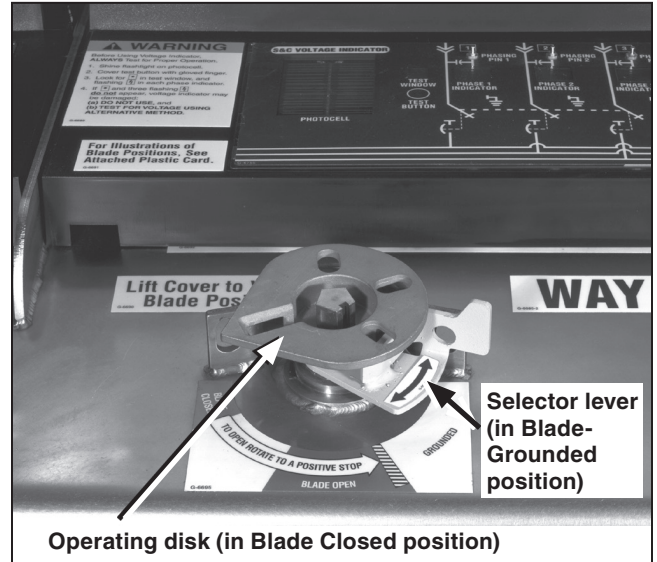

Figure 1. Observe the position of the operating disk and selector lever.
- STEP 1.** Observe the position of the operating disk and selector lever on the load-interrupter disk switch way or single-pole or three-pole fault-interrupter way to which the portable motor operator is to be installed. Remove padlocks. See Figure 1.
If operation is to be from the **Closed** position to the **Open** position or vice versa, place the selector lever in the **Grounded** position as shown in Figure 1. In the far-right position, the selector lever allows operation between the **Closed** and **Open** positions; inadvertent operation directly from the **Closed** position to the **Grounded** position is prevented.